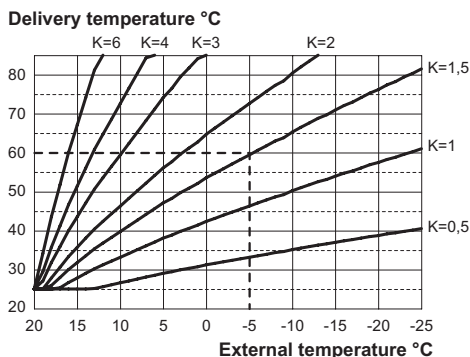

Fig. 8.8
If the boiler is **EQUIPED** with the remote control (optional) refer to Fig. 8.8. In this case K setting must be done from the remote control.
The K coefficients is a parameter that increases or reduces the boiler flow temperature when the outside temperature changes. When installing the external probe it is necessary to set this parameter based on the efficiency of the heating system in order to optimise the flow temperature (Fig. 8.8).
E.g. In order to have a flow temperature at the heating system of 60°C with an external temperature of -5°C, set a K at 1.5 (sectioned line in Fig. 8.8).
- Pressing the 11 or 13 keys, it is possible to change the value of parameter **14** from a minimum of **00** to a maximum of **60** based on the selected curve of the K coefficient in Fig. 8.8 (the value shown on the display, in Fig. 8.14, corresponds to **K = 1.5**).